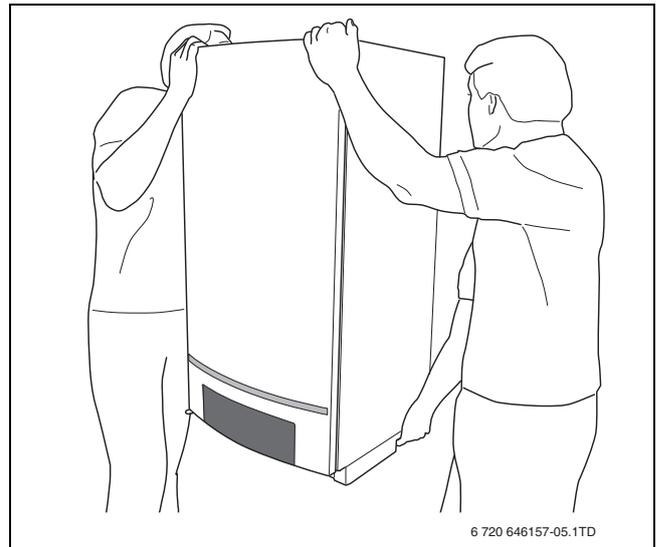

Fig. 6 Lift and carry the boiler correctly
- ▶ Always lift and carry the boiler with 2 people as shown in fig. 6, or use a hand truck or special equipment.
- ▶ With 2 people, lift the boiler by holding it by its back and by the transport rail at its bottom and install it on the wall bracket (→ fig. 6, page 10).